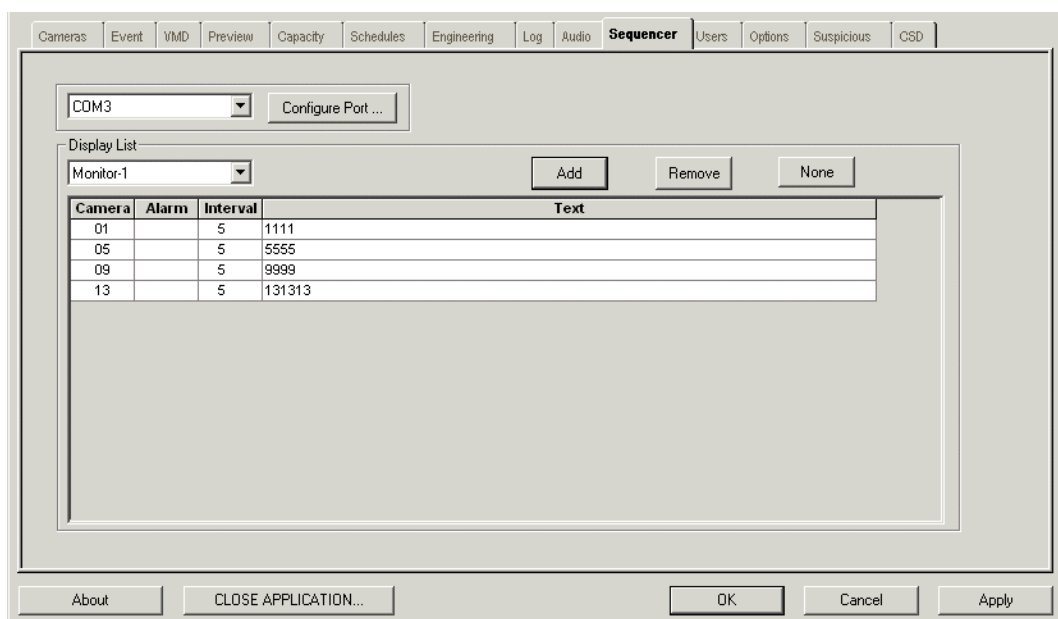

Figure 12-13: Configuring a display sequence for a composite monitor
1. Open the **Sequencer** menu of the Configuration Console as shown in Figure 12-13.
6. Continue to click the **Add** button to add the new rows to the sequence. You can add as many rows as you want to the sequence. As Figure 12-13 shows, you can place multiple entries for the same camera view in the sequence.